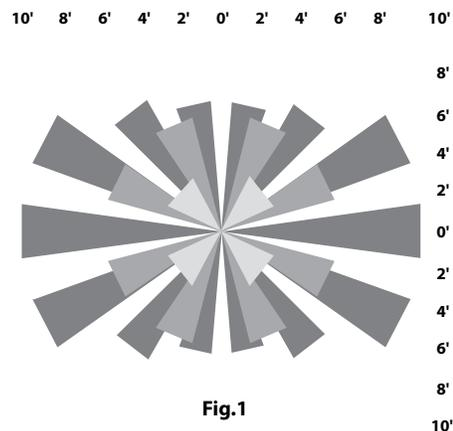

Fig.1
Coverage Diameter: 10ft at 8ft mounting height (Fig. 1)
- Movement must occur across zones of detection (see **Coverage Diagram** (Fig. 1))